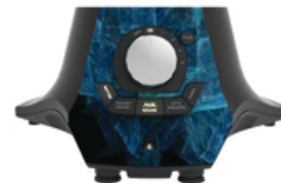

Figure 3
2. Select the Preset function required. Eg **BATTER**. Only the selected '**BATTER**' button and the '**PAUSE/ RESUME**' button will glow. The mixer will start grinding (Refer figure 3)